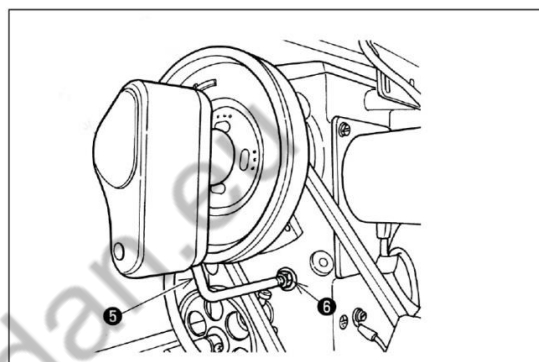

Fig.8
Screw whirl stop (5) into the tapped hole in the arm in the fig.8 and fix it with nut (6).